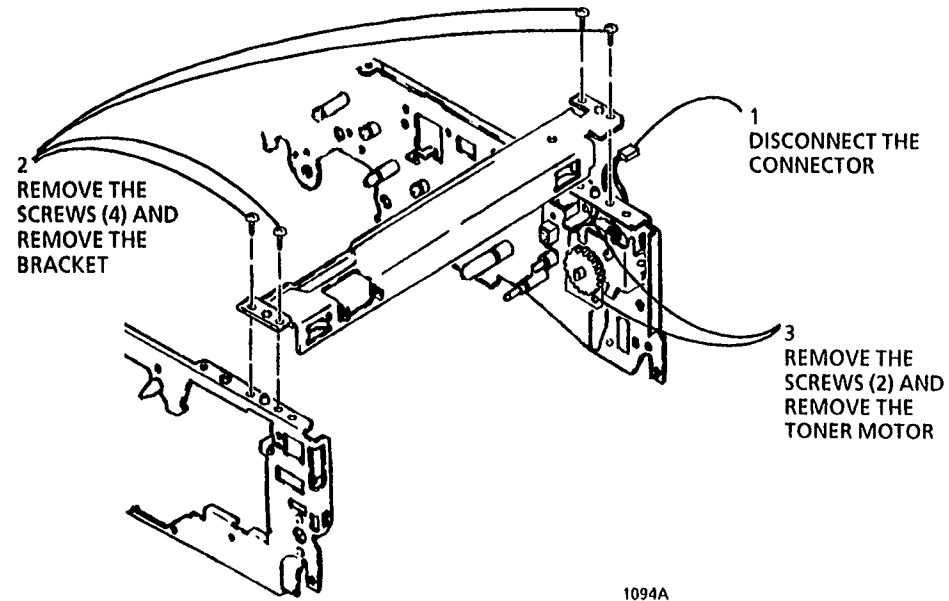

Figure 1. Removing the Toner Motor (MOT2)
4. (Figure 1): Remove the Toner Motor.